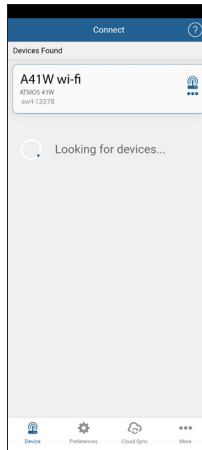

Figure 30 ATMOS 41W connection process
1. Make sure nothing is obscuring the temperature sensor or the sonic transducers shown in Figure 30 (cobwebs, leaves, wasp nests, etc.).